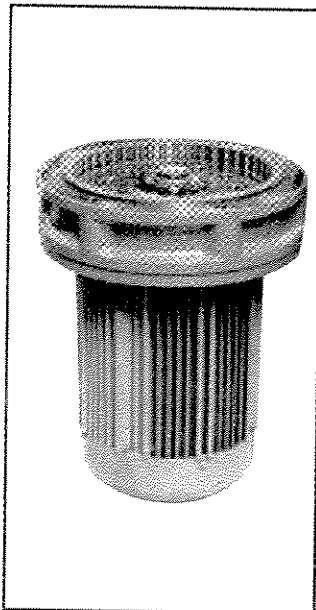

Fig. 19
5. Take out the slow speed shaft rollers, item 1-06, page 12 (Fig. 19). Check the slow speed shaft pins (1-01) to see whether any rollers have adhered to them.
8. Insert slow speed shaft rollers (Fig. 19).